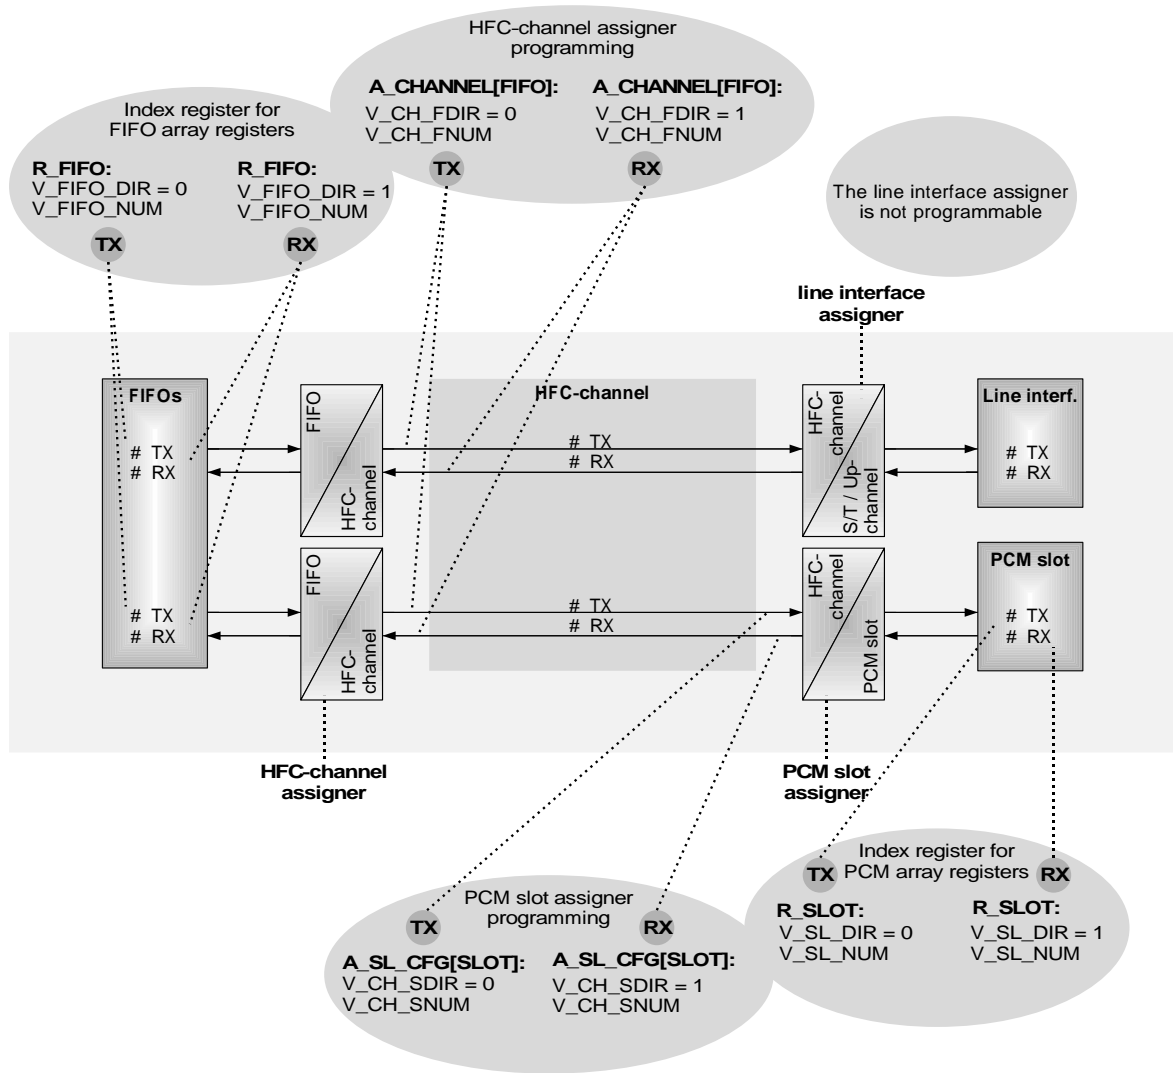

Figure 3.5: Overview of the assigner programming
The three different assigner types of XHFC-2SU are shown in Figure 3.5. Assigner programming is always handled with array registers. This can be a FIFO array register or a PCM slot array register.
- The HFC-channel assigner programming depends on the data flow mode which is described in Section 3.4. This section explains in what cases the assigner is programmable and how this can be done. Figure 3.5 gives a hint, that the programming procedure is handled with array register A\_CHANNEL[FIFO]. Please see section 3.4 for details and restrictions.